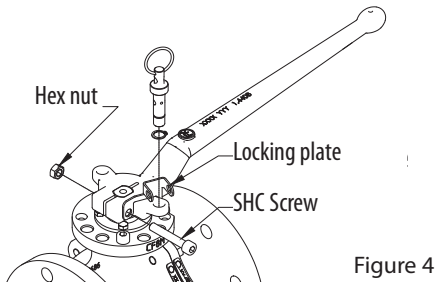

Figure 4
4. Insert the SHC screw through the locking plate hole and hand lever and tighten the hex nut until snug, clamping the hand lever to the stem flats (Figure 4).
5. Insert locking pin thru locking pin hole on lever (Figure 4 & 5).